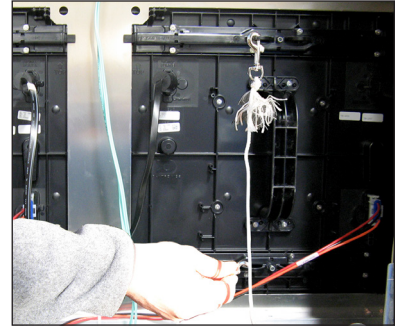

Figure 11: Attach Safety Lanyard to Modules
1. Attach one end of the lanyard to an attachment ring on the top of the module. Refer to **Figure 11**.
1. Attach one end of the safety lanyard to a lanyard ring on the top of the module. Refer to **Figure 11**.
3. Attach the other end of the lanyard to the lanyard attachment ring on the bottom of the module that will be removed. Refer to **Figure 11**.